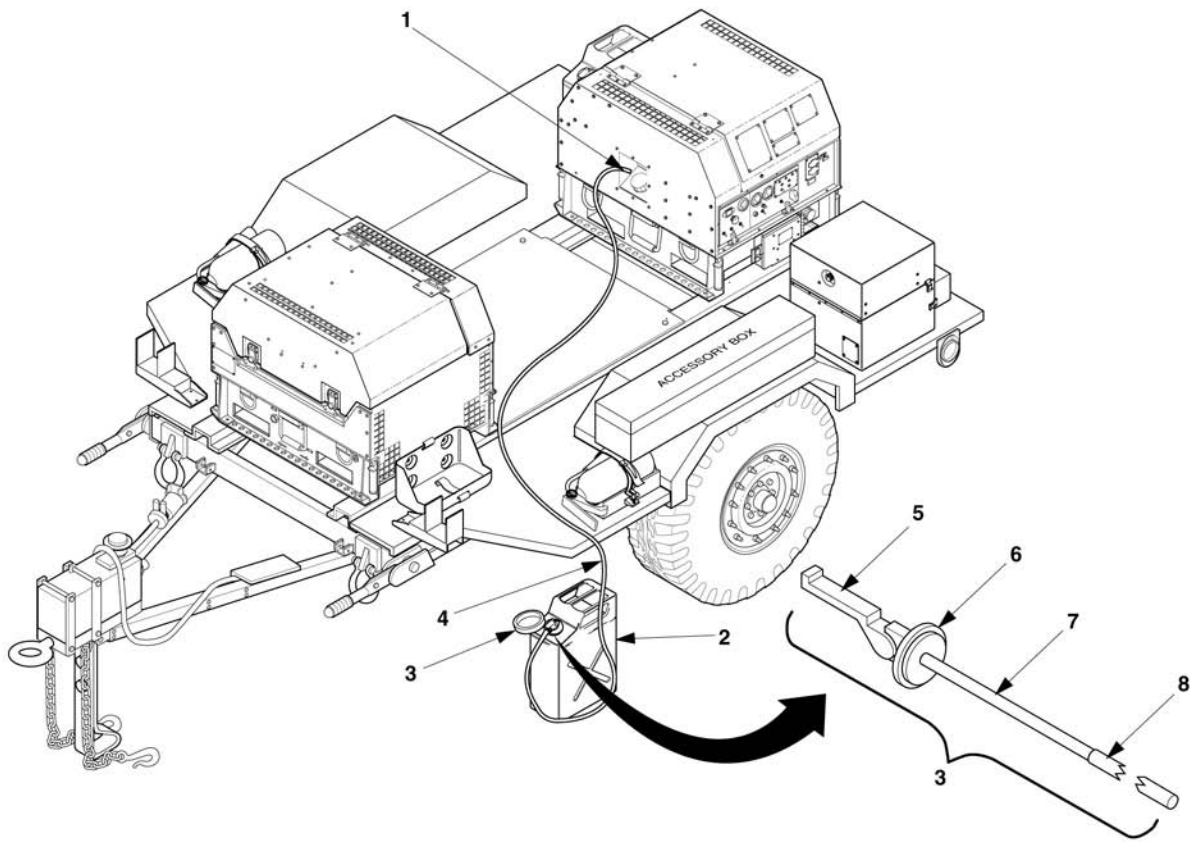

Figure 2-14. Disconnect Auxiliary Fuel (Typical).
- a. Disconnect the auxiliary fuel hose (4, Figure 2-14) from the generator set external fuel supply connection (1). Elevate the free end of the auxiliary fuel hose to drain fuel back into the external fuel source (2). Place free end of auxiliary fuel hose on a clean surface.
- b. Disconnect auxiliary fuel hose (4) from fitting on container adapter (3).
- d. Release the container adapter from the external fuel source by lifting the handle of the clamp (5). Remove the container adapter from the external fuel source. Close the external fuel source and load onto appropriate transportation.